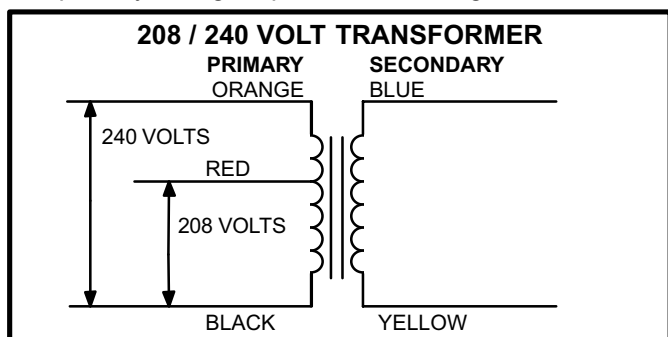

FIGURE 7
All GCS16 series units use a single line voltage to 24VAC transformer mounted in the control box. The transformer supplies power to control circuits in the unit. Transformers are rated at 45VA. 208/230 (P) voltage transformers use two primary voltage taps as shown in figure 7.